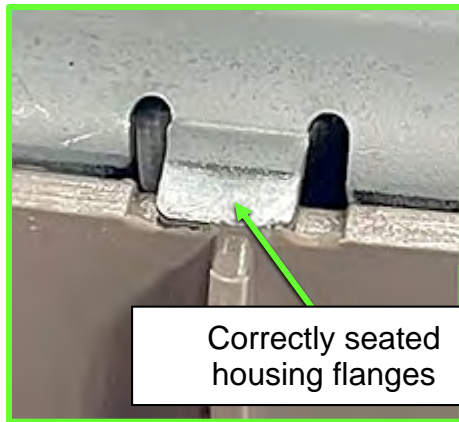

Figure 30
31. Ensure each of the four (4) housing flanges are positioned over the cover-wall edge and the housing corners are seated with no cushion material visible.
- Figure 30 and Figure 31 show an example of one (1) of the four (4) housing flanges seated correctly.